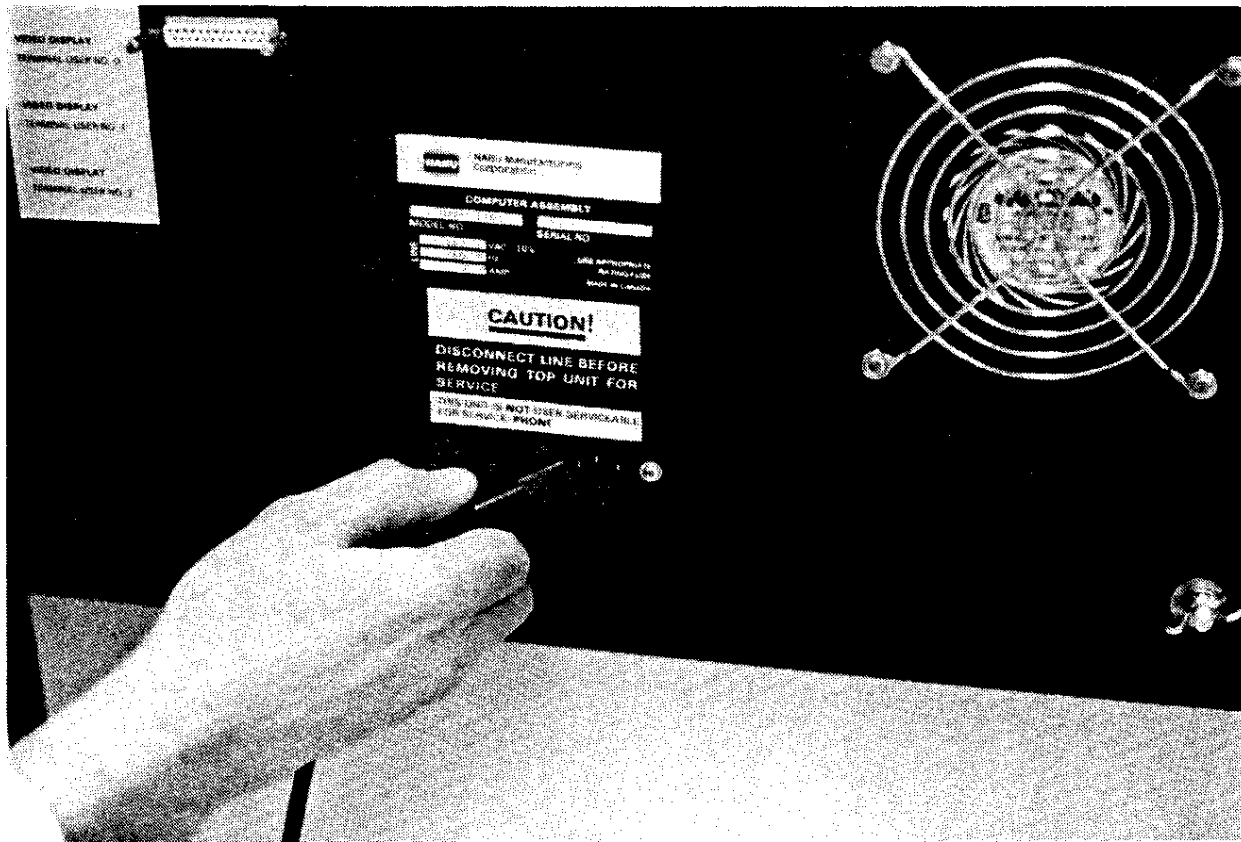

Figure 2.1-8
4. Unwrap the power cord (from the bottom drawer) and plug into the appropriate receptacle on the back panel. (See Figure 2.1-8).